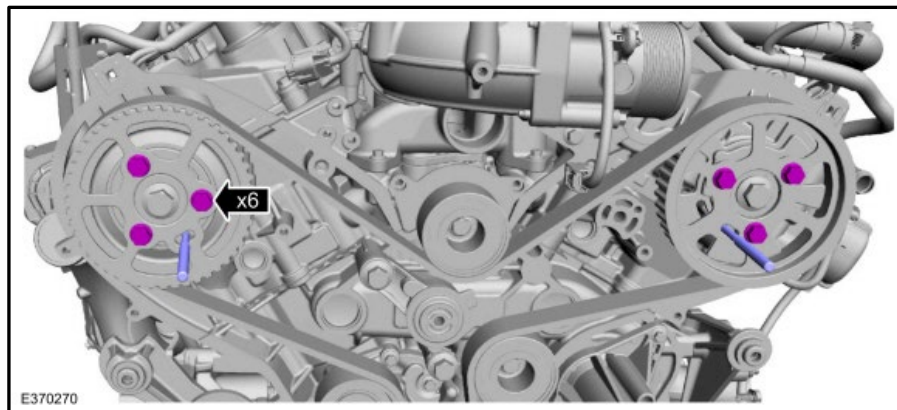

Figure 21
- O. *Tighten the camshaft pulley bolts. Figure 21.*